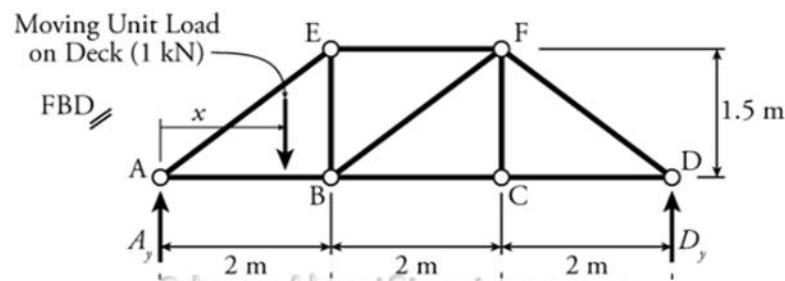

Fig.10
- b) Assume a unit point load is rolling along the bridge deck from points A to D in a simple truss as shown in Fig.10. The distance  $X$  is the distance of the moving load from point A. Construct the influence line diagram for the three members EF, BF and BC.